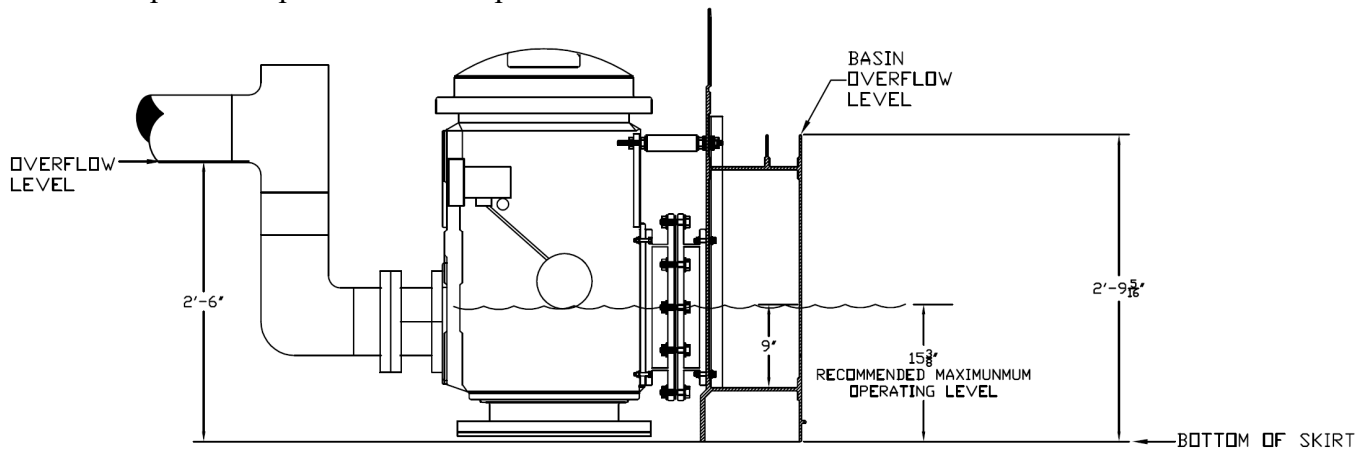

Figure 45 – Sump Level Control Detail
7. Verify the operating level in the module(s) is within the specified range (refer to Figure 45 after the system has equalized).